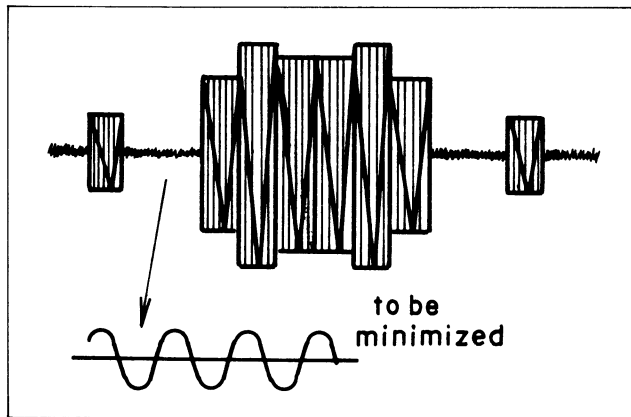

Fig. 5-39. Color output waveform
2. Adjust R129 (Conv. Balance) at that time until the leakage of the 4.35MHz component is minimized as shown in Fig. 5-39.